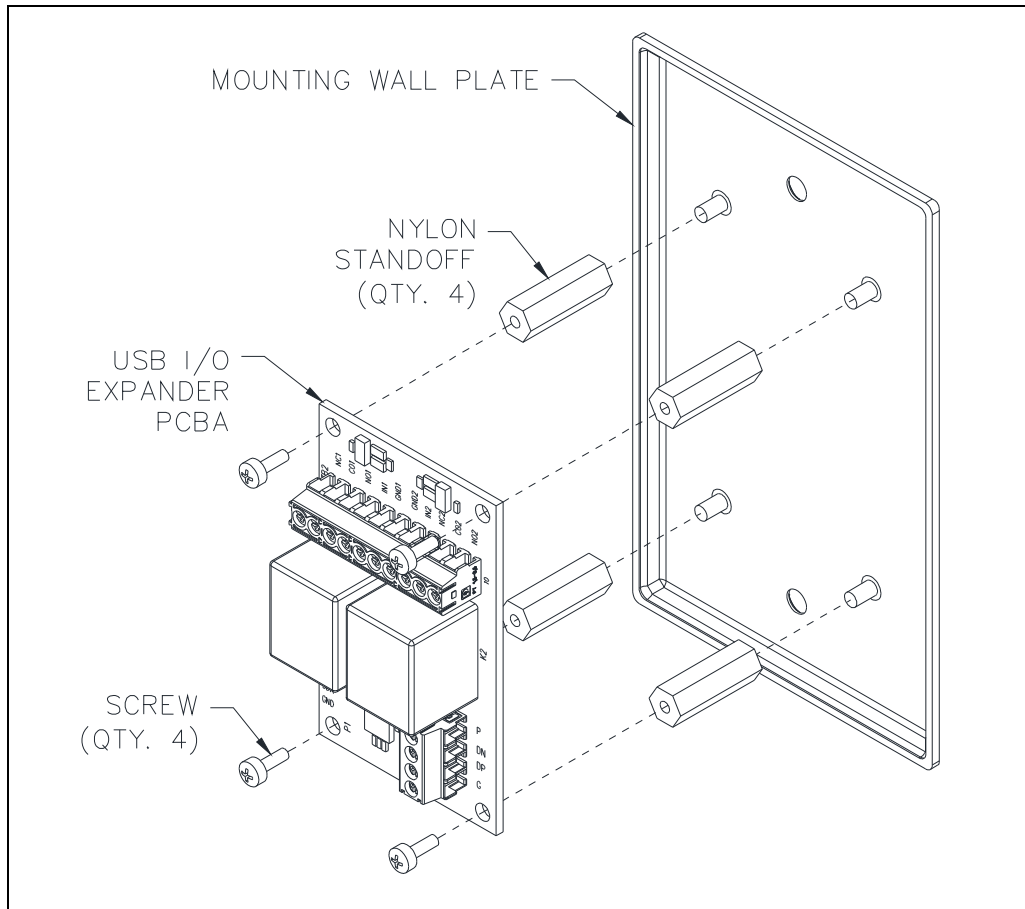

Figure 1. PCBA to Wall Mounting Plate Assembly
4. Secure the PCBA with the four screws provided (see Figure 1).